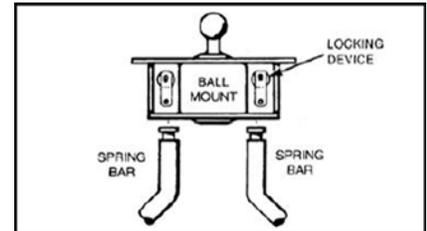

Figure 5: WD spring bars attached to head through socket and secures with clip.
•To remove spring bars, just swing bar around under the bumper and it will drop free (see Figure 5).